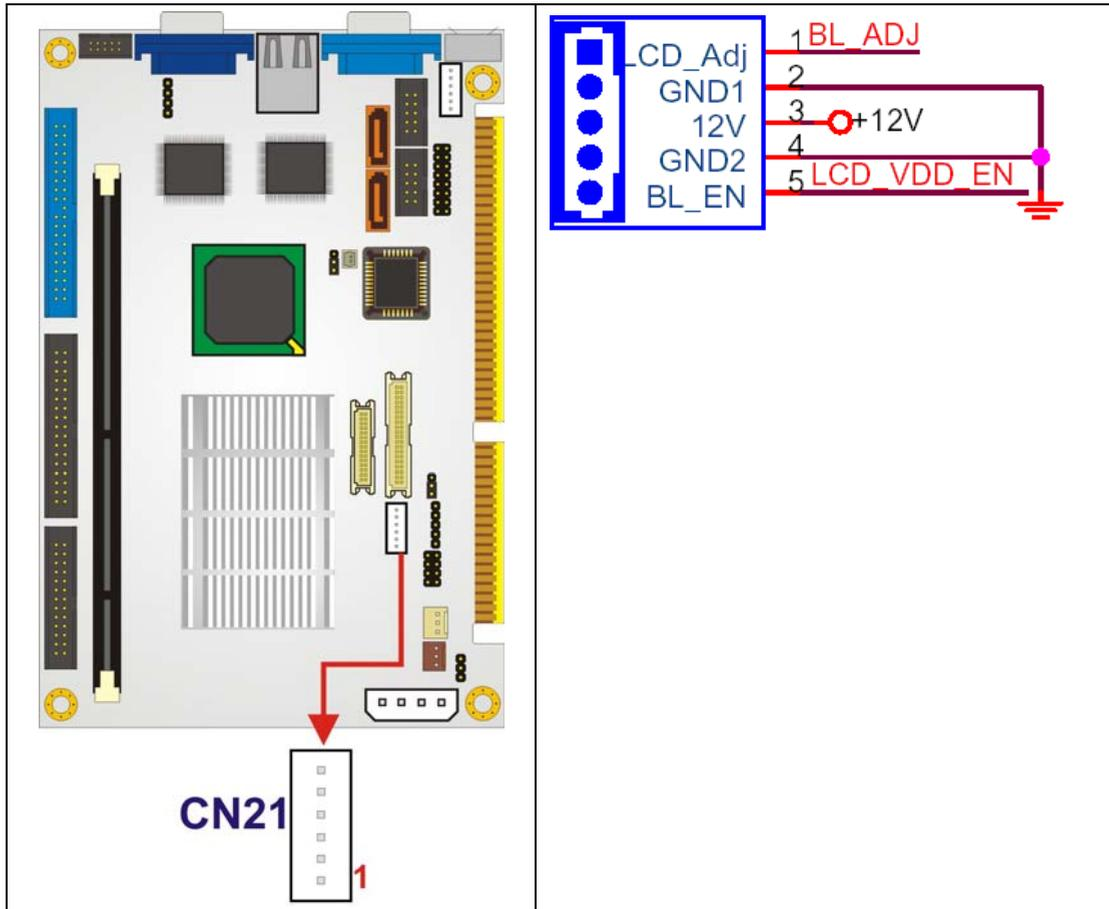

Figure 4-6: Panel Backlight Connector Pinout Locations
- CN Location:** See Figure 4-6